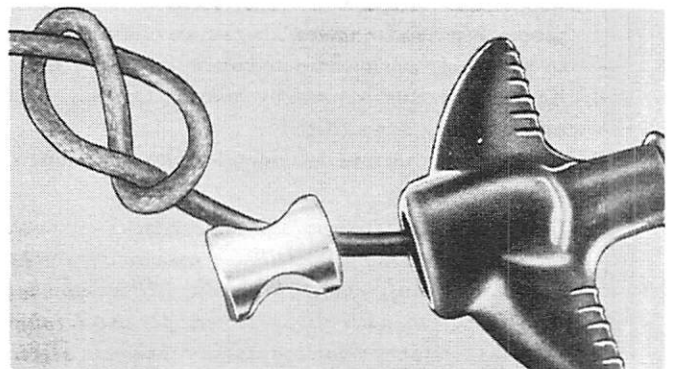

Figure 3. "Figure 8" Knot in Cable (Magna-Pull)
16. Tie a "figure 8" knot in cable. (Figure 3)